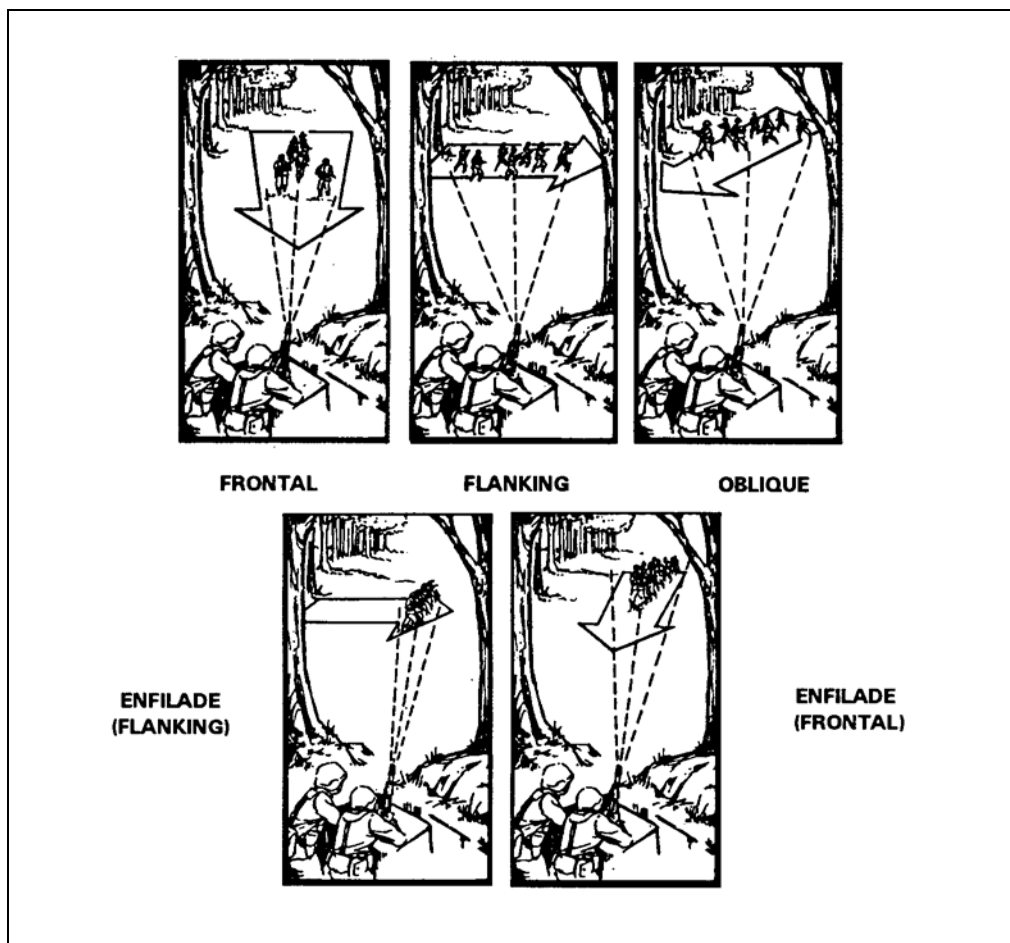

Figure 6-2. Classes of fire with respect to the target.
- b. **With Respect to the Target.** This includes four ways to distribute fire (Figure 6-2, page 6-3):
- (1) **Frontal.** Frontal fire is directed against a target's front, with the target facing or moving toward the firing position.
- (2) **Flanking.** Flanking fire is directed against the target's flank.